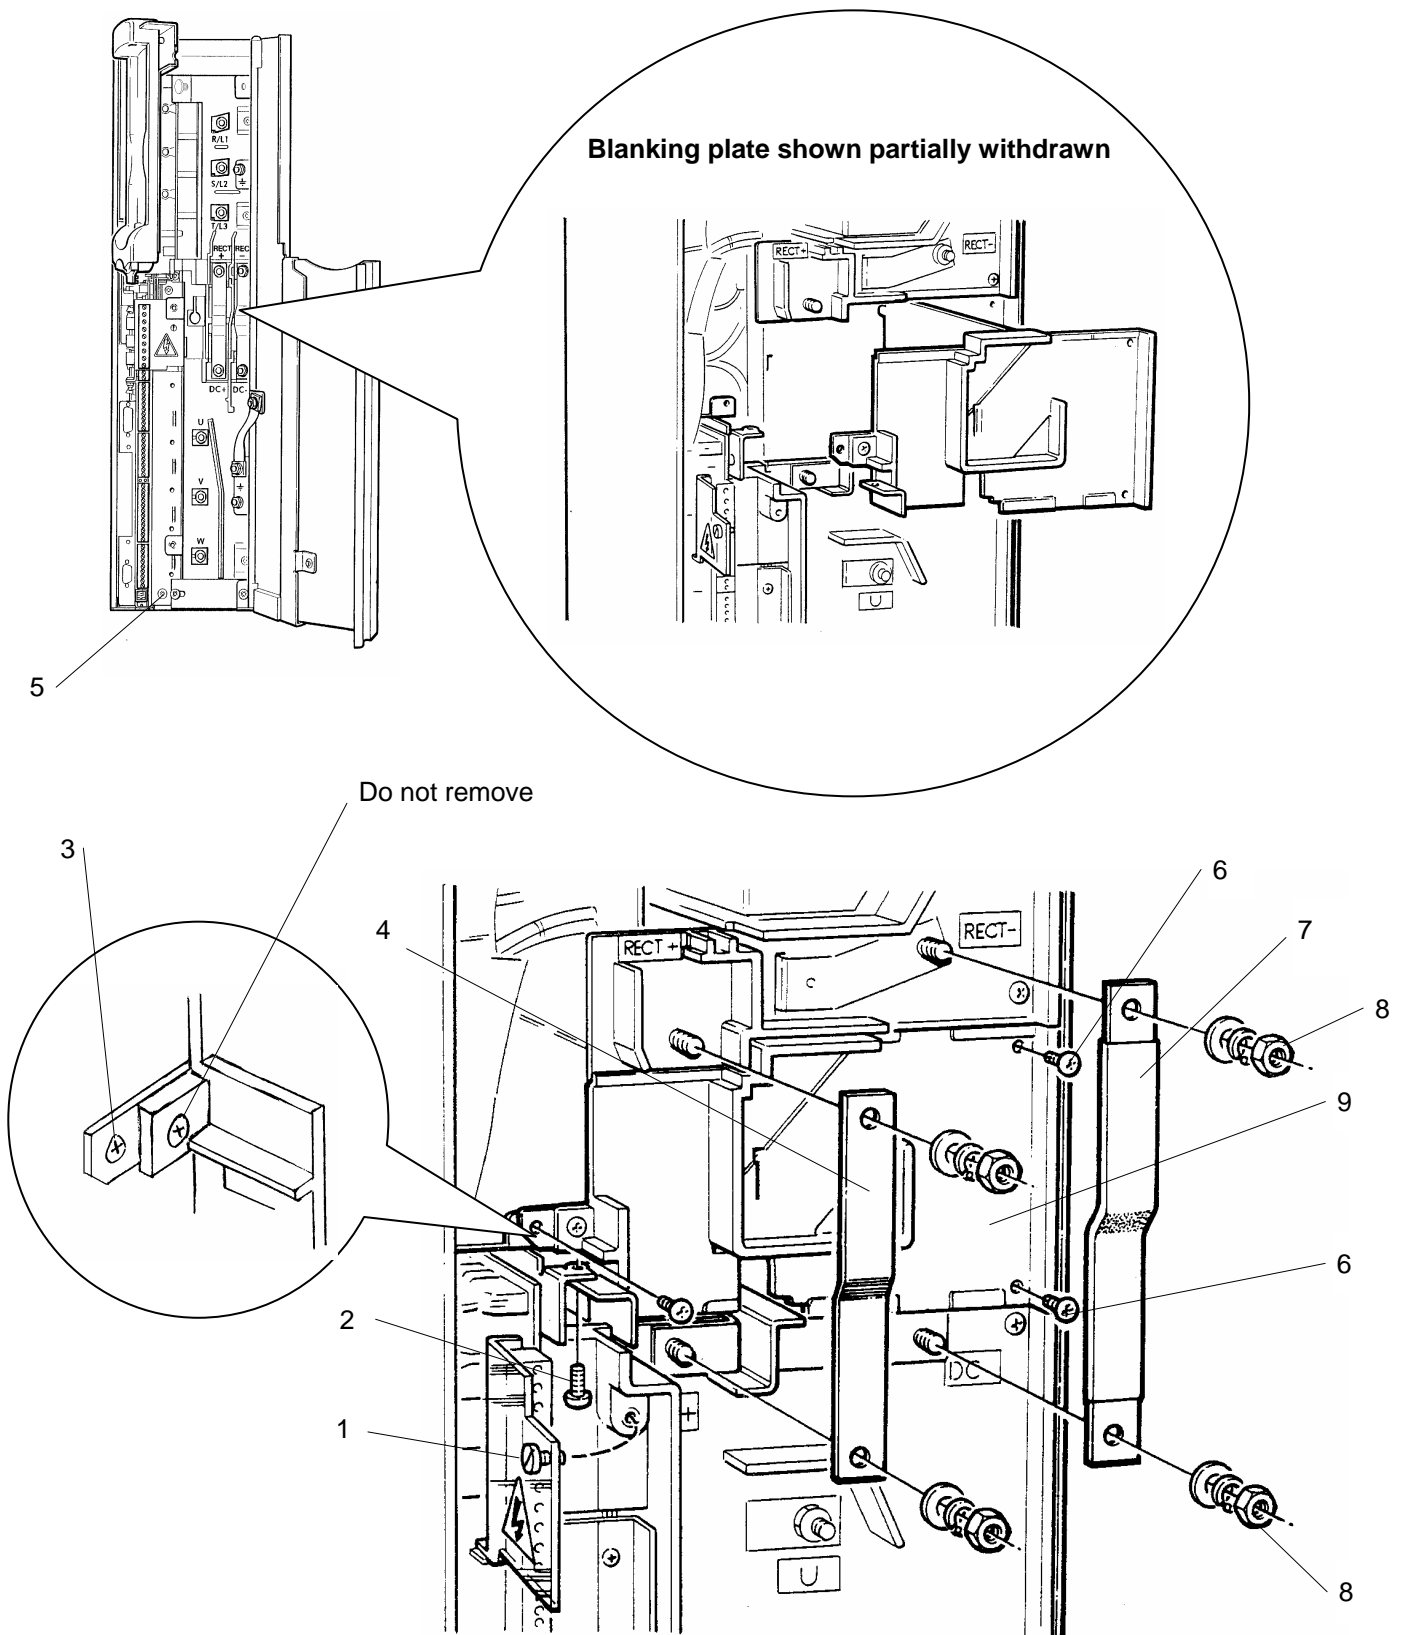

Figure 4-7 Frame size 4 – preparation
(Refer to Figure 4-7)
2. Locate the link (4) between the RECT+ and DC+ studs, and the insulated link (7) between the RECT- and DC- studs. Remove the M8 nuts (8) and washers retaining the two links and remove the links.
3. Open the hinged plastic shroud on the control board by releasing the M5 captive screw (1).
- i. Remove the M5 screw and washer (2) securing the DB blanking plate to the control board.
- ii. Remove the two M4 taptite screws (6) on the right hand side of the DB blanking plate.
- iii. Remove the M4 taptite screw (3) to the left hand side of the DB blanking plate – see the inset in Figure 4-7 to remove the correct screw.
5. Remove the M5 screw (5) securing the bottom of the control board to the chassis.